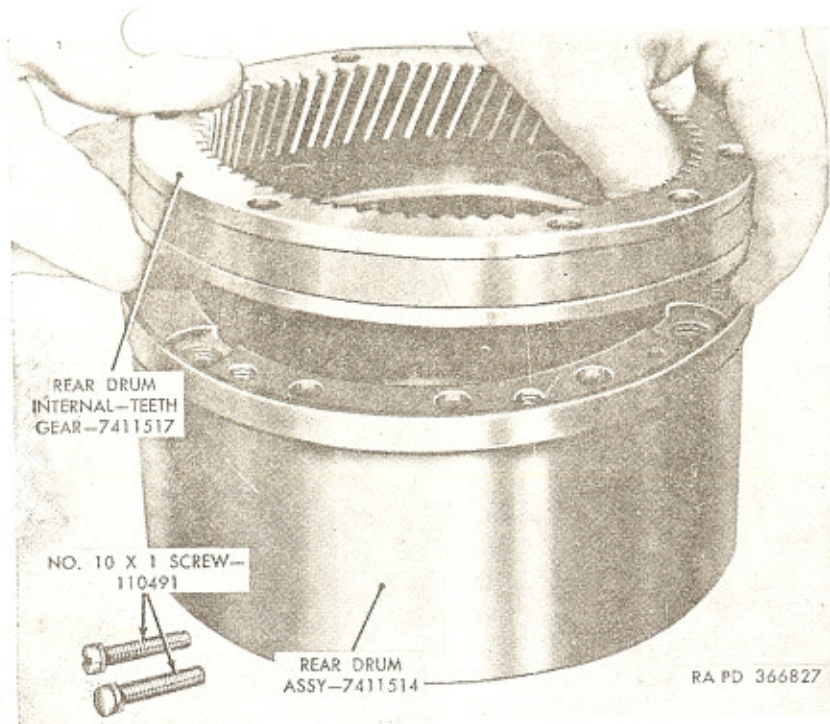

Figure 117. Removing or installing rear drum internal-teeth gear assembly.
j. If necessary to replace the rear drum internal-teeth gear (M), remove two fillister head screws (P) attaching gear to rear drum; then remove gear (fig. 117). This gear should not be removed from rear planetary unit drum unless replacement is deemed necessary.
a. If previously removed, position rear drum internal-teeth gear (M) on rear drum assembly (L) (fig. 117); then install two No. 10 x 1 screws (P) which attach gear to drum. Tighten screws to 3 to 4 pound-feet torque.
c. Install clutch drive (composition faced) plate (F) first; then install clutch driven steel plate (G) next, with square notches over drive pins. Continue alternating with drive and driven plates until nine drive and eight driven plates have been installed.
d. Install six clutch outer release springs (K) in round notches in driven plates. Install six clutch inner release springs (J) inside outer springs. Install six clutch spring guide pins (H) inside inner release springs.
e. Position rear clutch drum assembly (B) on bench with hub up; then use fingers to install clutch piston oil seal ring (C) in groove of drum. Do not expand oil ring more than necessary to make the installation.